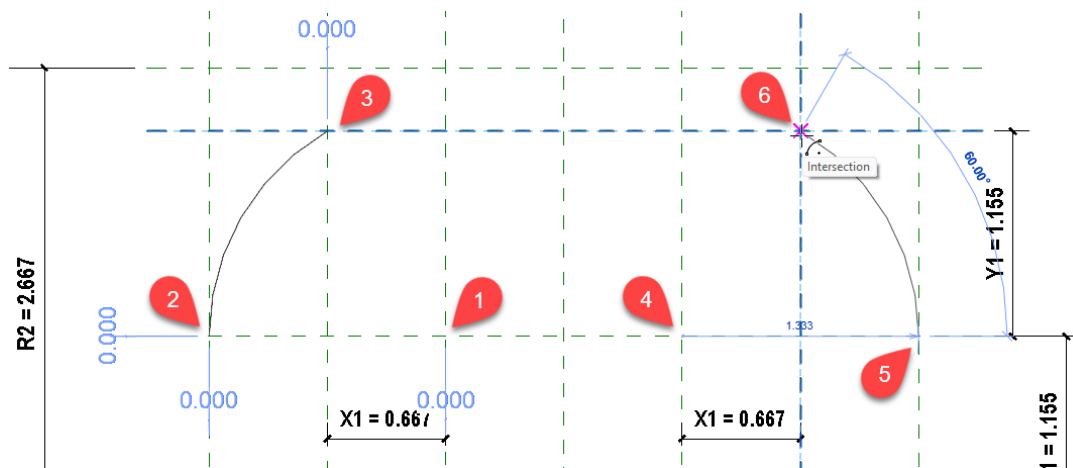

Figure 46—Draw the left and right arcs
- ⇒ Place the center point at the intersection of the Spring Line and Left Center reference planes (point 1 in Figure 46).